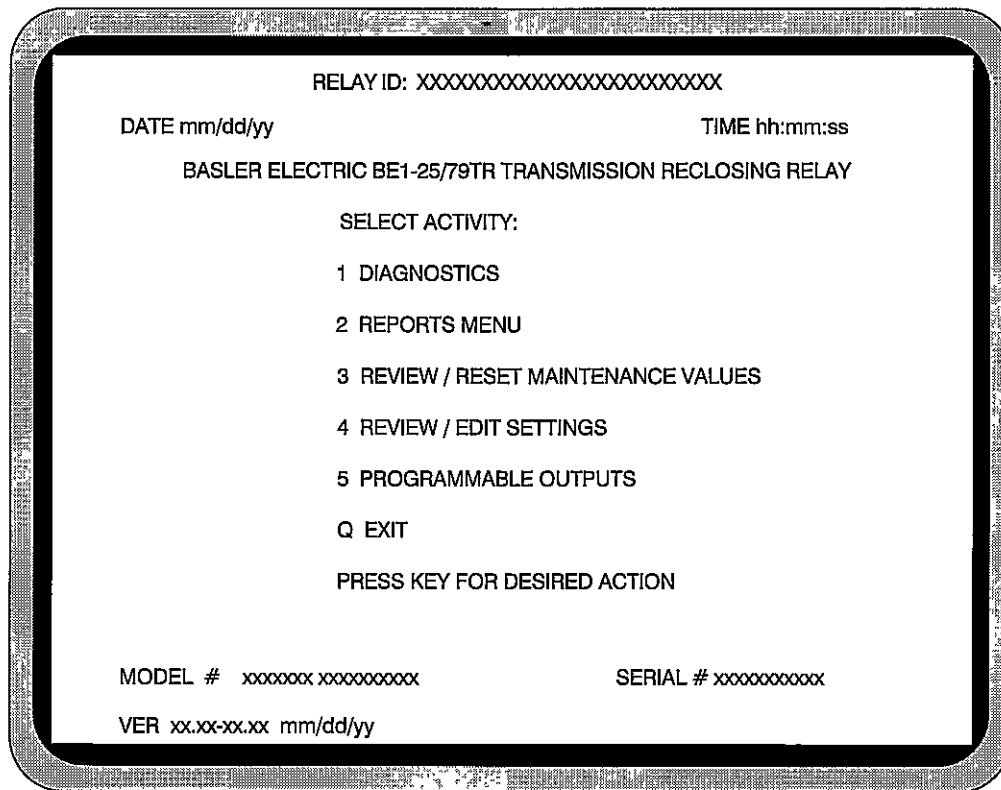

Figure 3 - Main Menu Screen
- Menu-based system operates with readily available PC modem software that emulates a dumb terminal. Menu system is shown in Figure 3.